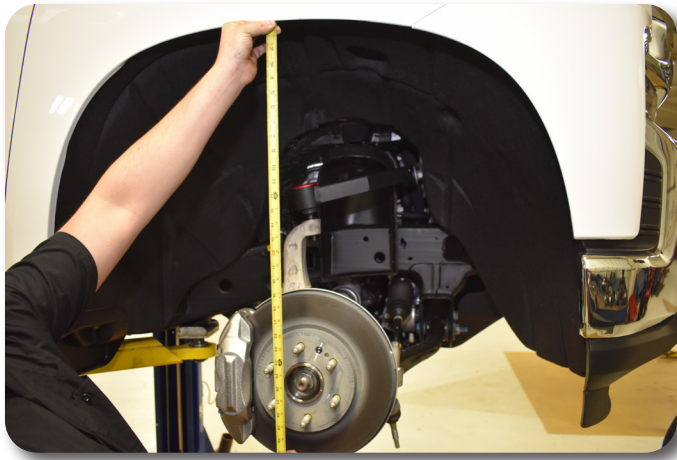
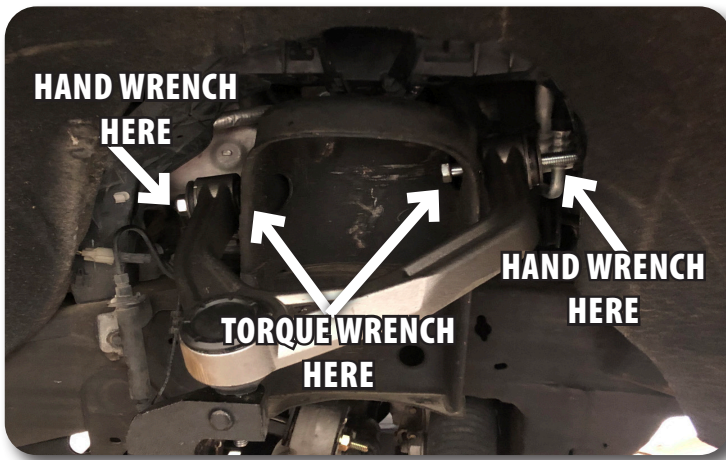

Figure 11A
Figure 11B
- Set the ride height from the fender lip to the center of the hub at 24-1/2" (2" Kits). Figure 11a **Using a torque wrench on the inside of the strut bucket and a wrench on the outside bushing to prevent the nut / bushing from moving**, tighten the control arm hardware to **126 ft-lbs**. This will ensure the rubber bushings are tightened to the right position and not put preload in the rubber bushings. **DO NOT** spin the "bushing side" hardware when tightening, only tighten from the inside "frame side". Figure 11b